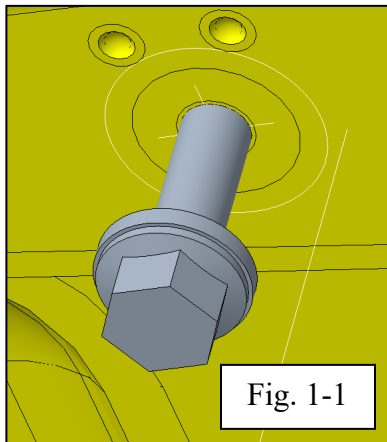

Fig. 1-1
- Using a 12mm socket, remove and save for later twelve OE Hex bolts from underneath the vehicle, 6 per side (Fig. 1-1 & Fig. 1-2).